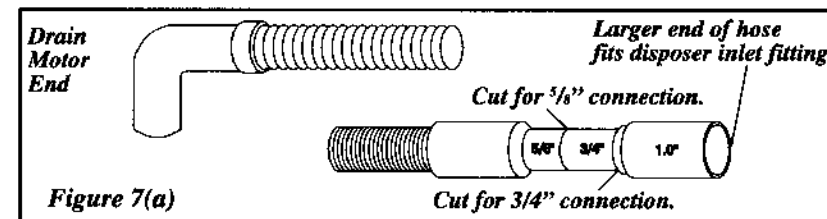

Figure 7(a)
4. If you connect to a disposer, the large end of drain hose will fit. Figure 7(a). The knock out plug must be removed from inside disposer inlet before making the final fit to drain hose. See Figure 7(b).